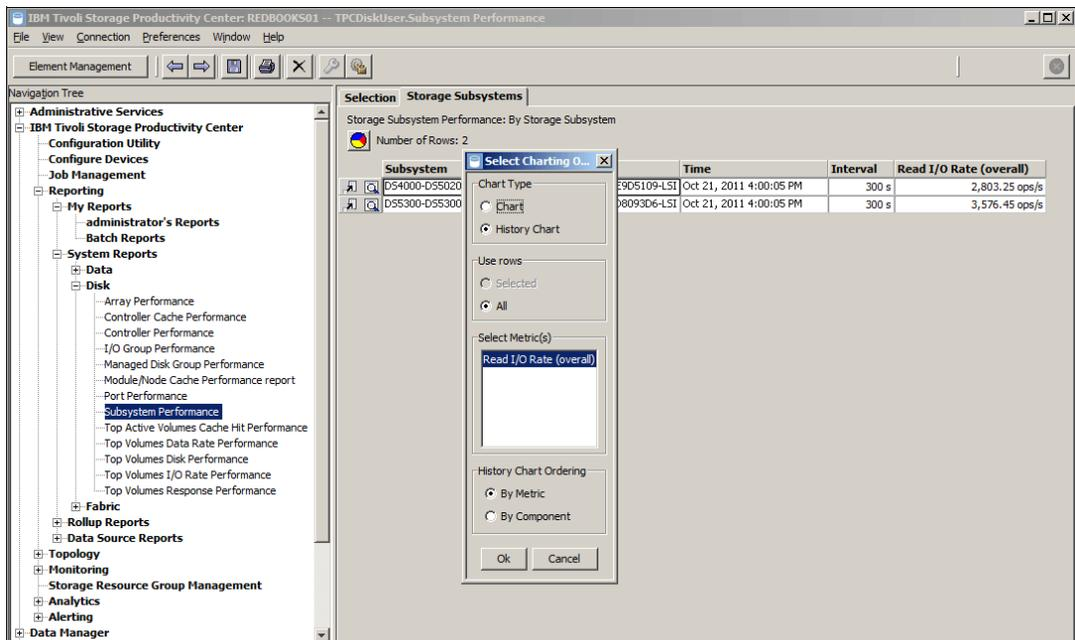

Figure 9-40 Select Charting Option
- We can now create a chart based on the generated report. Click chart  icon and select the chart type and rows of the report that you want to be included in the chart as well, as the performance metric to be charted (see Figure 9-40).